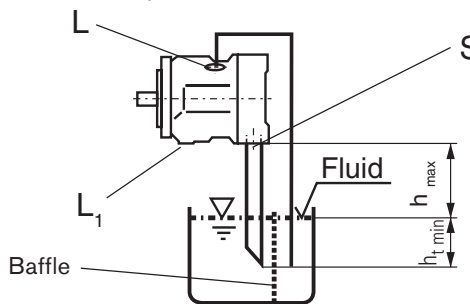

Fig. 4
Pipe port „L“ and „S“ acc. to fig. 4, port „L1“ closed. Conditions correspond with item 1.2.1
a) For mounting above tank see fig. 4.